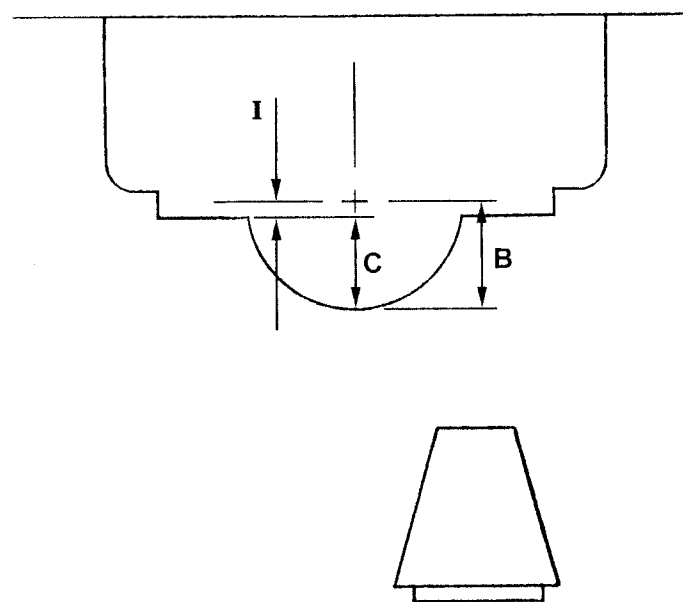

FIGURE 8
9. Subtract this reading from the size of the Setting Gage. The result is "C" in Figure 8.
10. Subtract "C" from "B" to find "I" ($B-C=I$). **Important note:** Figure 8 is drawn with "C" smaller than "B"; in other words, the bearing cap parting line is below the centerline. However, in some cases, "C" will be larger than "B", meaning that the parting line is above the centerline. **Always use the formula $B-C=I$. If "C" is larger than "B", then "I" will be negative. Do not ignore the negative sign.**